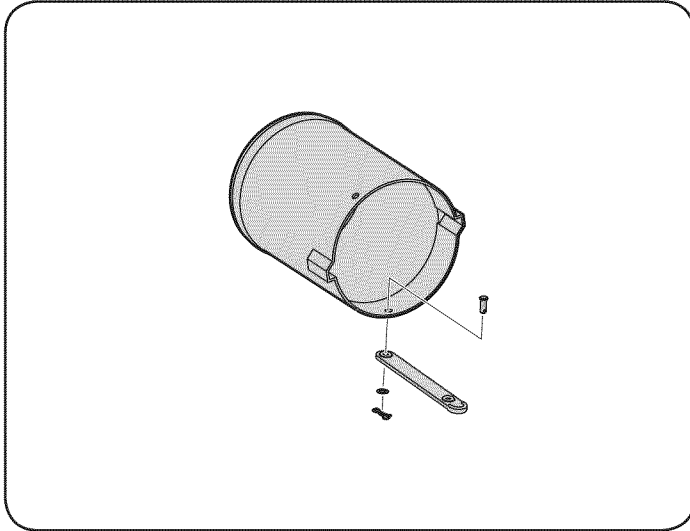

Figure 20
13. Install rubber strap (723-04008A) onto the chute tube extension using clevis pin (711-05063), flat washer (736-0204) and bow-tie cotter pin (7104040) from hardware pack 689-00092B. Attach the end with the hole closest to the end of the strap, as seen in Fig. 20. This will make it easier to grab onto the strap to pull, stretch and hook onto the grass-catcher pin previously installed on the chute elbow in the previous step.